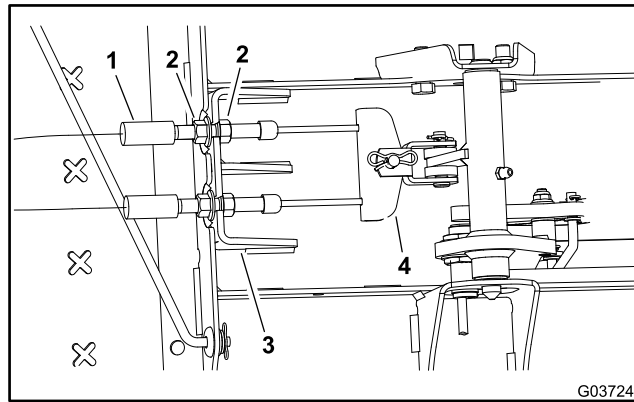

Figure 254
- C. Repeat the step 3. The cable yoke should be square to both cables after adjustment (Figure 254).